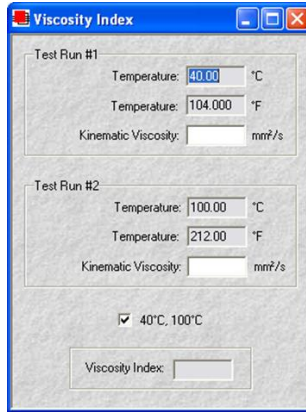

Figure 22: Viscosity Index Window
The viscosity index (VI) of a fluid is a measure of its sensitivity to changes in temperature. Viscosity index is based on an arbitrary selection of oils considered to have high and low variations in viscosity with temperature changes. The higher the VI of a fluid, the less its kinematic viscosity varies with changes in temperature. Conversely, a fluid with a low viscosity index exhibits a substantial decrease in viscosity as the temperature increases. Refer to Figure 22.